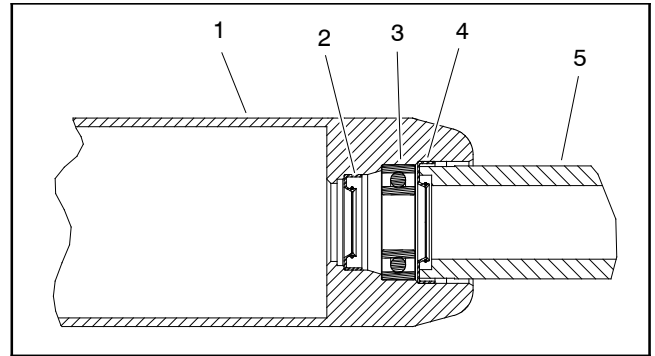

Figure 41
C. Install first outer seal into roller tube making sure that seal lip (and garter spring) faces end of tube. Use bearing/outer seal tool (see Special Tools in this chapter) and soft face hammer to lightly seat seal against roller shoulder (Fig. 41). Make sure that bearing still freely rotates after seal installation.